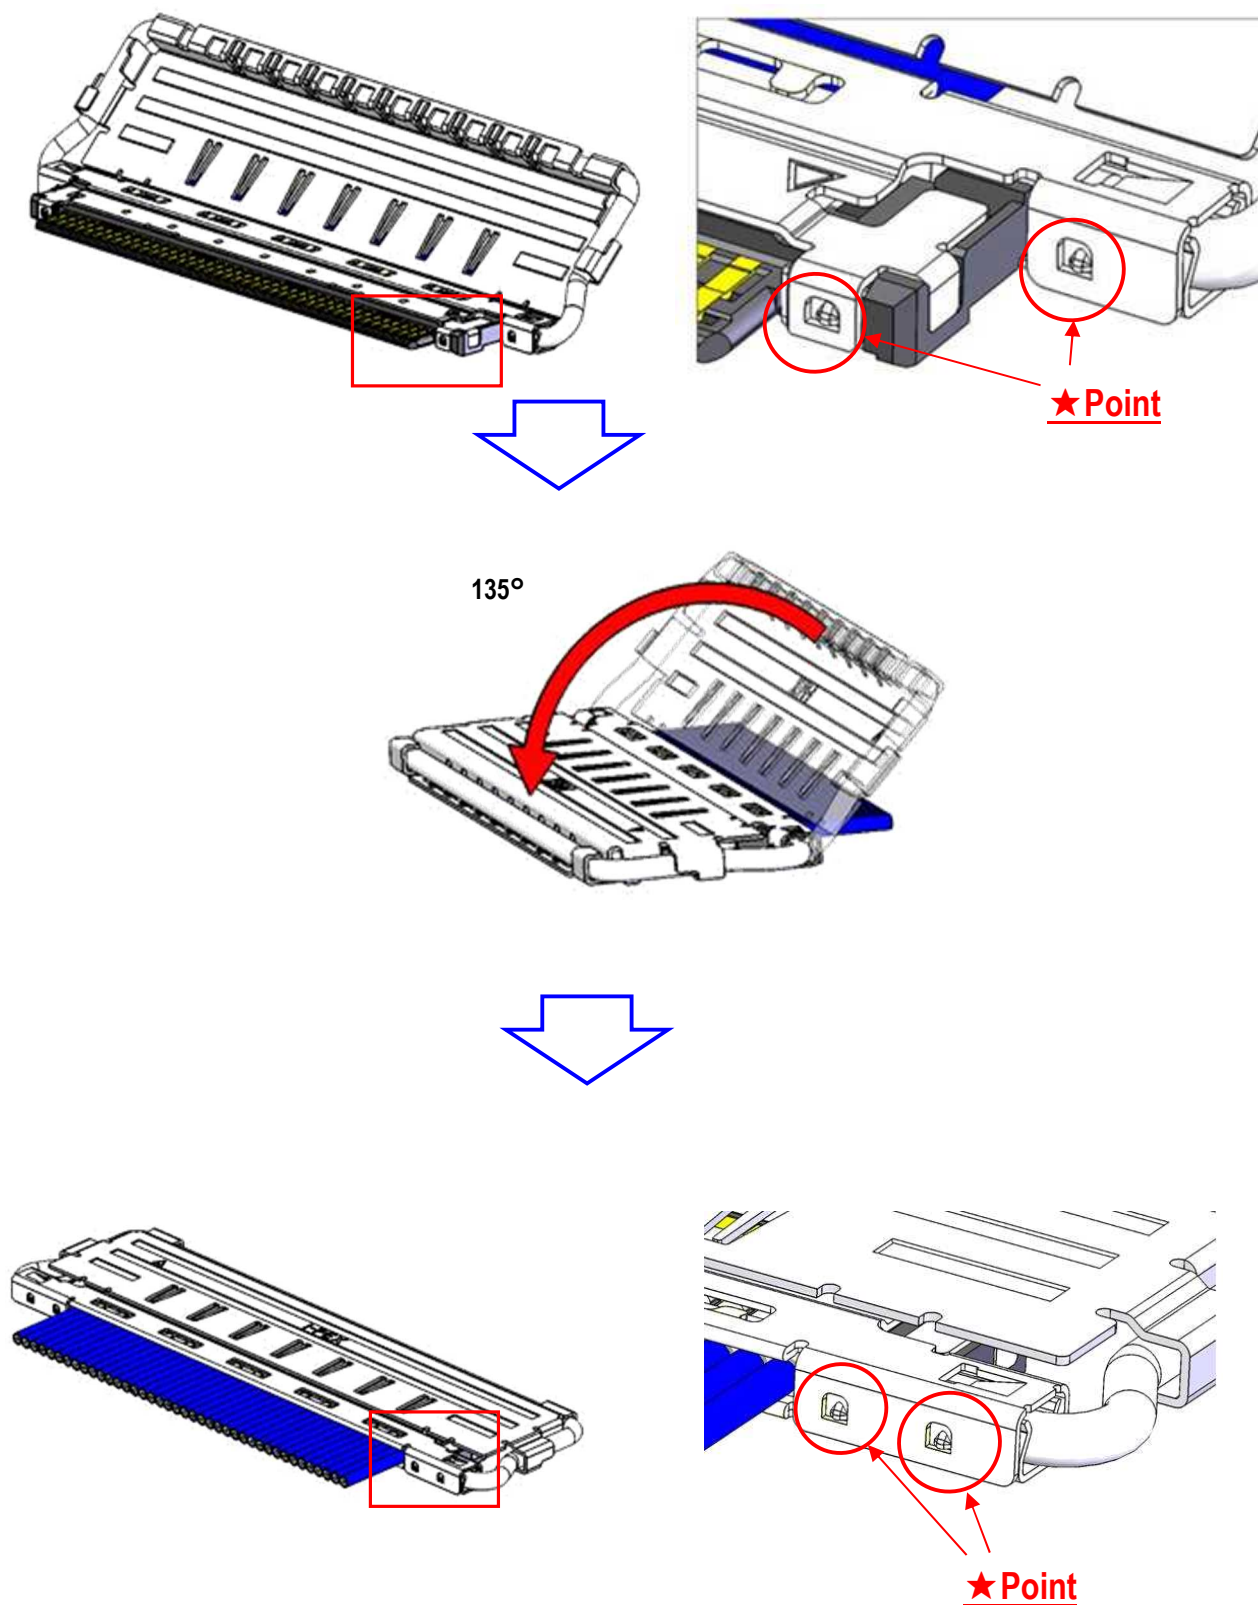

Fig.9 The assembly confirmation of SHELL-A
- ④ Soldering SHELL A, B and GND BAR with the soldering iron at all designated points is recommended. (Fig.9,10◆point)